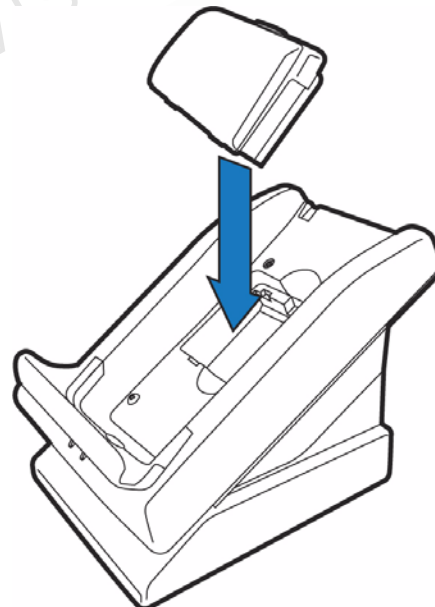

Figure 29 Putting Spare Battery Pack Into the Base Station
- 2 Place the spare battery pack onto the Base Station as shown in Figure 29.